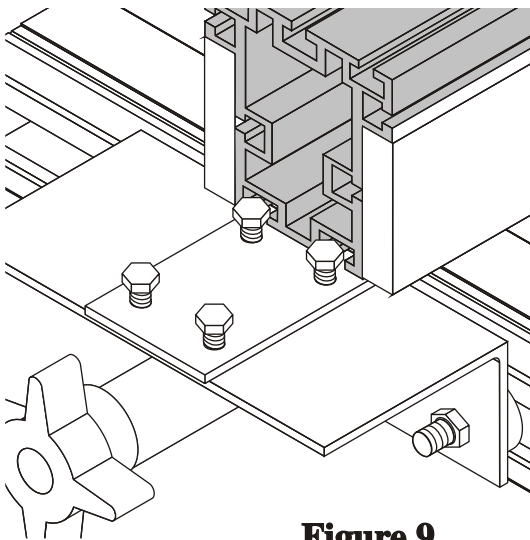
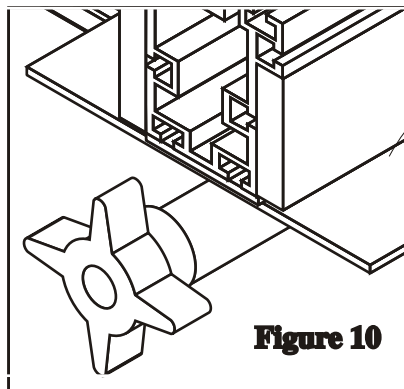

Figure 9
Figure 10
Mount the Fence to the Fence Carriage (Part #3) by first laying the fence on the table top and position the fence so that the t-slots on the bottom edge of the fence align with the four (4) mounting bolts on the Fence Carriage. (Figure 9) Lift the bolts up from the bottom as you slide the Fence onto the four the bolt heads. Position the Fence so that the end of the Fence is even with the edge of the Fence Carriage. (Figure 10 & 11) Snug the four (4) bolts from the bottom so that Fence is just tight enough not to move on the Fence Carriage. You will tighten bolts fully after fence alignment.